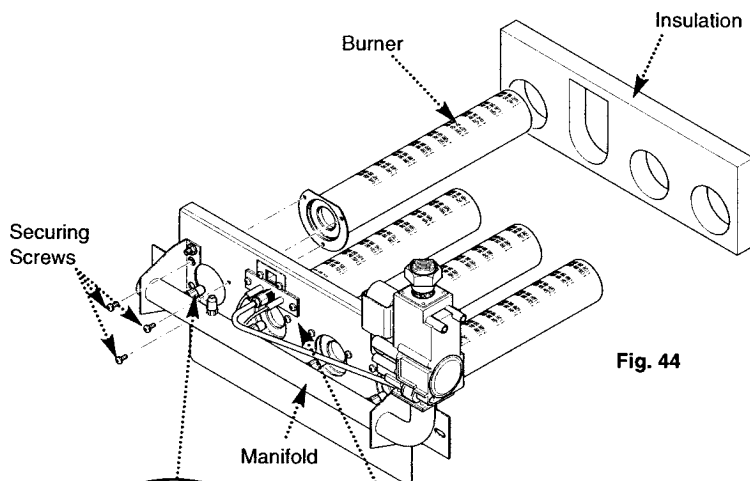

Fig. 44
4. Carefully draw the insulation piece away over the burners (Fig. 44).
5. Undo the screws securing the burner(s) to be replaced. Remove the burner(s) (Fig. 44).
10.5 Injector(s) (Figs. 44 & 45)
2. Undo the pilot bracket securing screws. Withdraw the bracket from the burner mounting plate. Carefully remove the pilot injector from the bracket (Figs. 44 & 46).